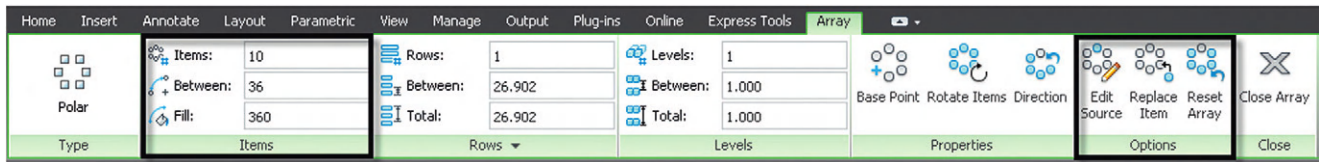

FIGURE 8.5
The Ribbon has two areas of interest, the Items category and the Options category, as seen in Figure 8.5. The Items category we already mentioned and is relatively self-explanatory. Top to bottom, the first value (10) is the number of items in the array, and you can change that for an instant update. Below that is the angle between all the objects (36°), and finally, below that, the total angle filled (360° , or a full circle). This should make sense as $36 \times 10 = 360$.